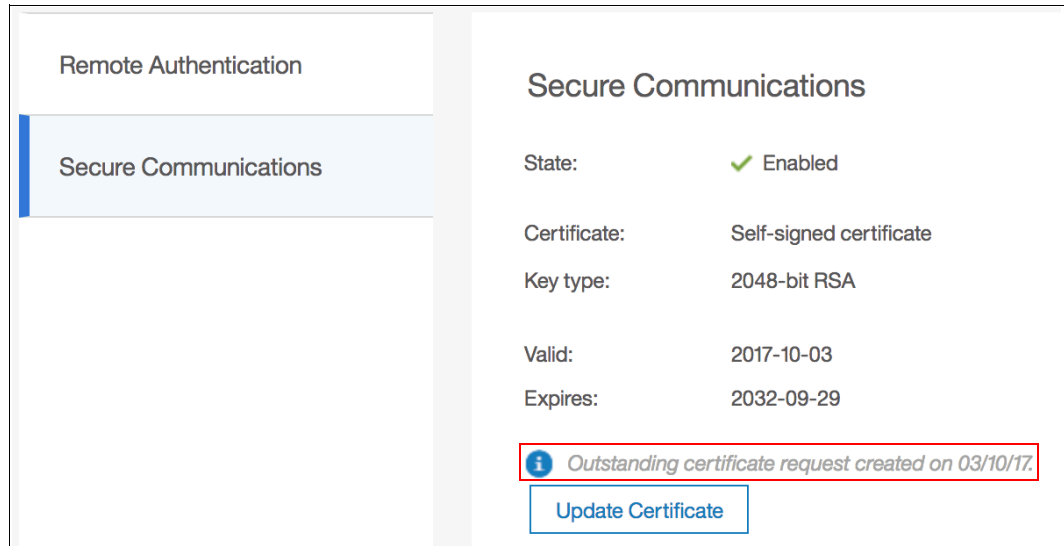

Figure 7-36 Outstanding certificate request
4. Save the generated request file. The Secure Communications window now mentions that there is an outstanding certificate request, as shown in Figure 7-36 on page 265. This is the case until the associated signed certificate is installed.